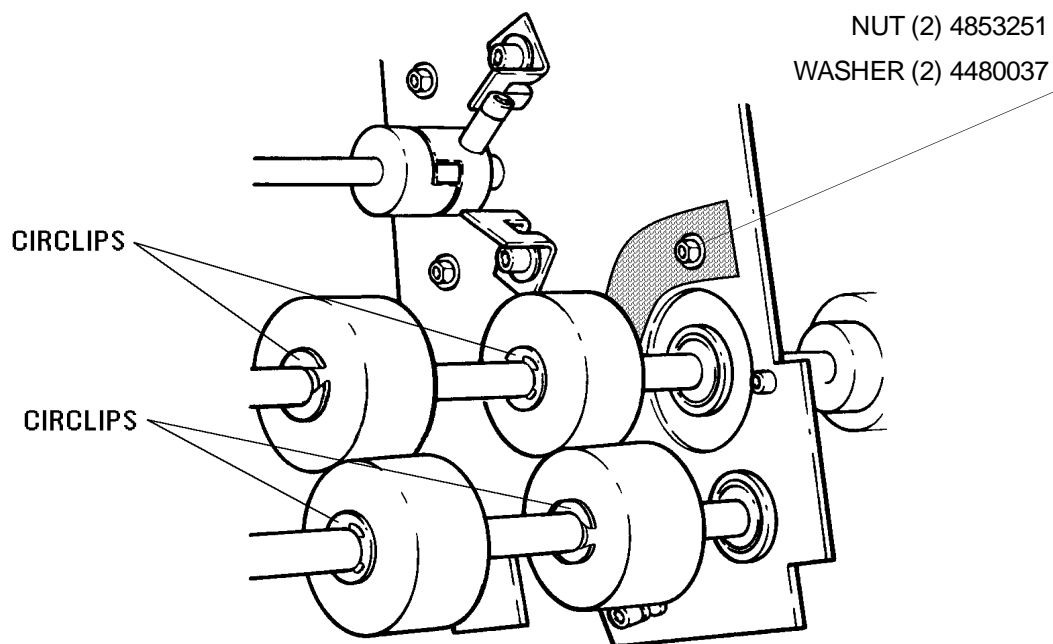

figure 5
13. Remove and discard all CIRCLIPS. (They have no function.). See figure 5.